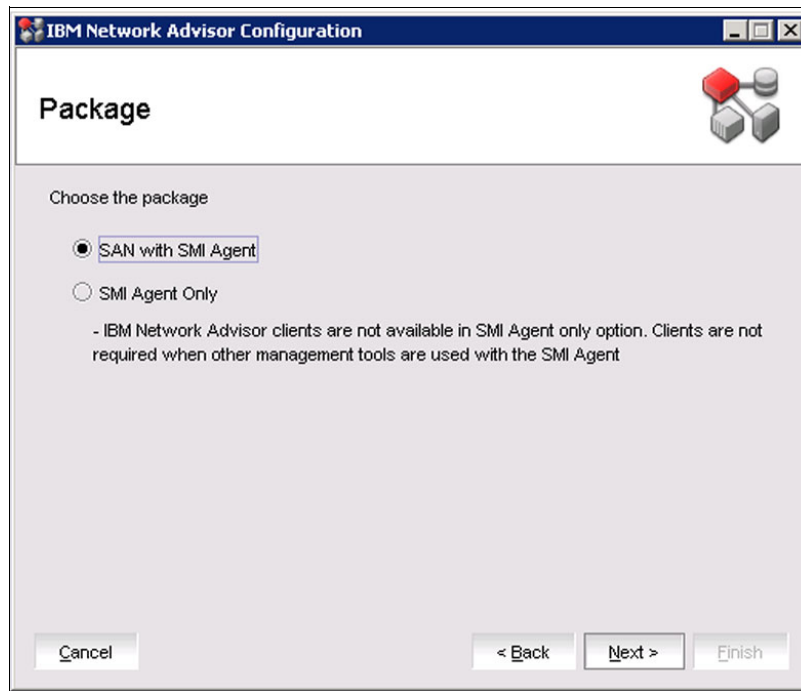

Figure 4-11 Package selection window
9. The Package window opens and prompts you to choose a package. IBM Network Advisor clients are not available in SMI Agent, so you must select **SAN with SMI Agent**, as shown in Figure 4-11. Click **Next**.